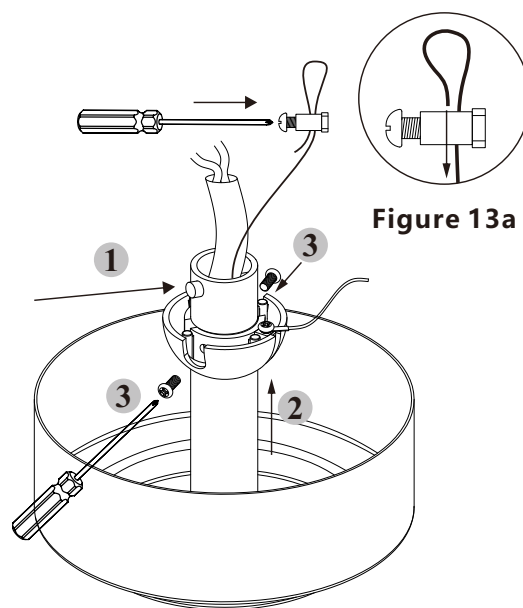

Figure 13
1.Reinstall the hanger ball on downrod using the reverse steps from (Step 3) (Fig.13)
2.Reinstall the safety cable coupler onto the safety cable using the reverse steps from (Step 4) (Fig.13 a)